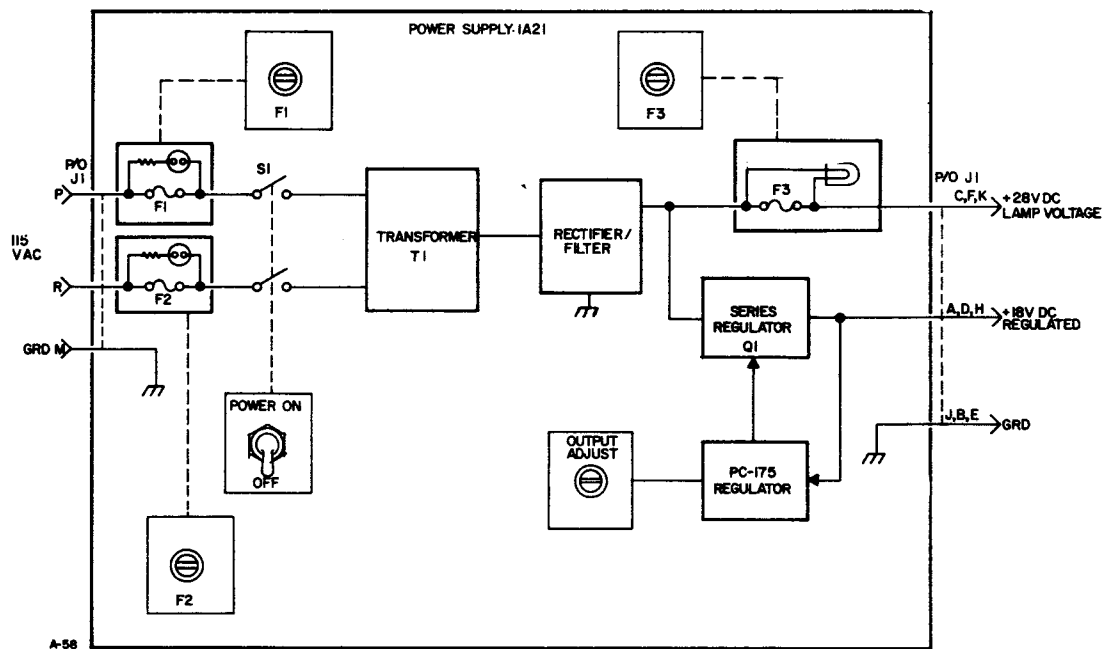

FIGURE 4-5. FUNCTIONAL BLOCK DIAGRAM, POWER SUPPLY PP-4846/SRA
(2) FUNCTIONAL DESCRIPTION. - Figure 4-5 illustrates functional composition of the power supply. AC line power enters the supply enclosure via jack J1 and is applied via fuses F1 and F2 and switch S1 to the primary winding of transformer T1. The output of T1 is rectified and filtered to provide an unregulated + 28 vdc output, applied through fuse F3 to jack